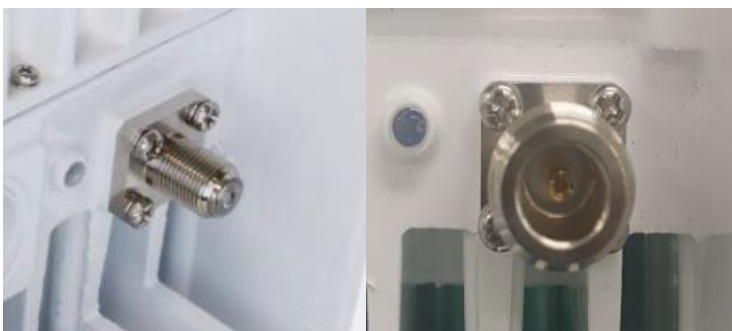

Figure 1. F type female connector N type female connector
4.1 Intermediate Frequency (IF) / 10MHz reference Input / DC
Intermediate Frequency (IF), 10MHz reference signal and DC are provided through N or F type connector. N or F type connector is used for the input port as shown in Figure 1.